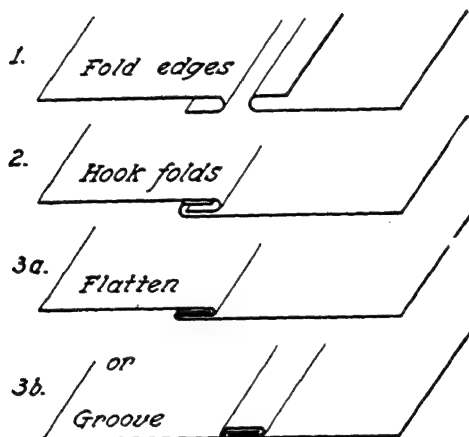
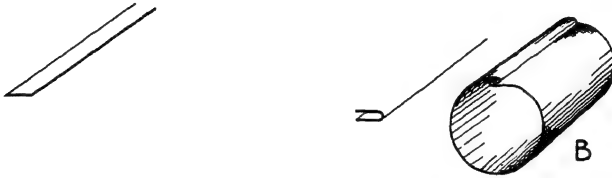

Fig. 58. Steps in making folded seam —
Fig. 59. A, metal folded from opposite sides for folded or grooved seam on cylinder. B, cylinder formed and folds of seam hooked
If necessary, fold the edges for any folded seam planned to hold the cylinder together (see Fig. 59). The grooved seam often is used for this purpose, and if a lap seam is used no folding is necessary.
The folded and grooved seams are very much alike, and the first steps in construction are exactly the same (see Fig. 58). It is the final operation that distinguishes these two seams. While the folded seam is hammered flat with a mallet, the grooved seam is grooved with a grooving tool. The folded seam is used extensively in laying flat metal roofs. This seam does not lock itself and it usually is soldered to hold it in place.
Figure 58 shows a folded and a grooved seam. Note there are four layers of metal at the seam. Additional metal, equivalent to three times
This is best done on the bar or roofing folder. If hand methods are necessary, see Unit 7. Set the gauge on the bar folder to the desired width of the seam, and fold. Note that one edge is folded from one side and the other from the opposite side of the piece (see Fig. 58). This last order of folding is especially important when forming a cylinder or any enclosure made from one piece (see Fig. 59).
Hook the folds to form the seam as shown in 2, Figure 58.
8. State order of making a folded or grooved seam (see Fig. 58).